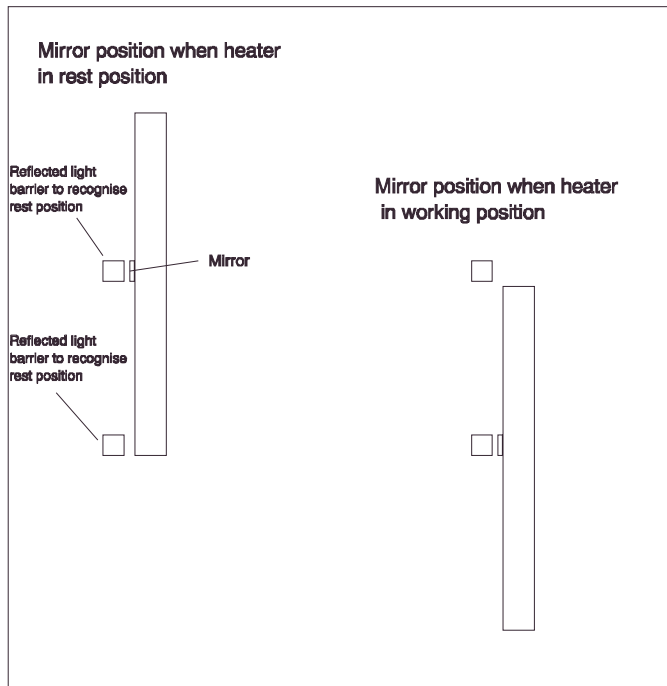

Fig. 1
2. Remove the cover panel (Fig. 1, 18, three screws).
13. Replace the cover (Fig. 1, 18).
When the puller is turned on (**MAINS**, see **Remedy A**) or when the pull sequence is started (**START**, see **Remedy B**), a rattling motor noise may be heard. This indicates that the bronze block (Fig. 5, 5) of the heater advance has become completely detached from the spindle (Fig. 5, 1). The spindle has an external thread and the bronze block an internal thread and under normal conditions the spindle is screwed into the bronze block. The length of the spindle and its thread are so designed that in the case of an error the heater advance cannot jam mechanically, in either its advanced or retracted position. Complete detachment of the bronze block from the spindle thread is normally prevented by two reflected light sensors (6) and a small mirror which is glued to the guide track (7) which moves with the heater (The mounted mirror cannot be seen, it is situated between the black aluminium part (8) of the sensor and the track (7)). The travel of the heater advance is the distance between these two sensors (see sketch Fig. 1 on the end of this chapter). The error case occurs when the mirror is beyond either of the reflected light barriers (see sketch Fig. 2 on the end of this chapter).
Step 1. Switch off the puller (**MAINS**) and pull out the mains plug. Open the lower right cover panel (Fig. 1, 14) .
Continue to turn the spindle clockwise until the heater is at approximately the middle of its travel. For safety reasons the cover panel (Fig. 1, 15) must be replaced before switching the puller on. Use the screws which were removed
For safety, switch the puller off (**MAINS**) and remove the mains plug. Open the lower right cover panel (Fig. 1, 14) .
For safety reasons the cover panel (Fig. 1, 15) must be replaced before switching the puller on. Use the screws which were removed at step 1 above. **Failure to close the cover properly may result in the advancing heater colliding with the cover panel and causing serious damage to the instrument.**